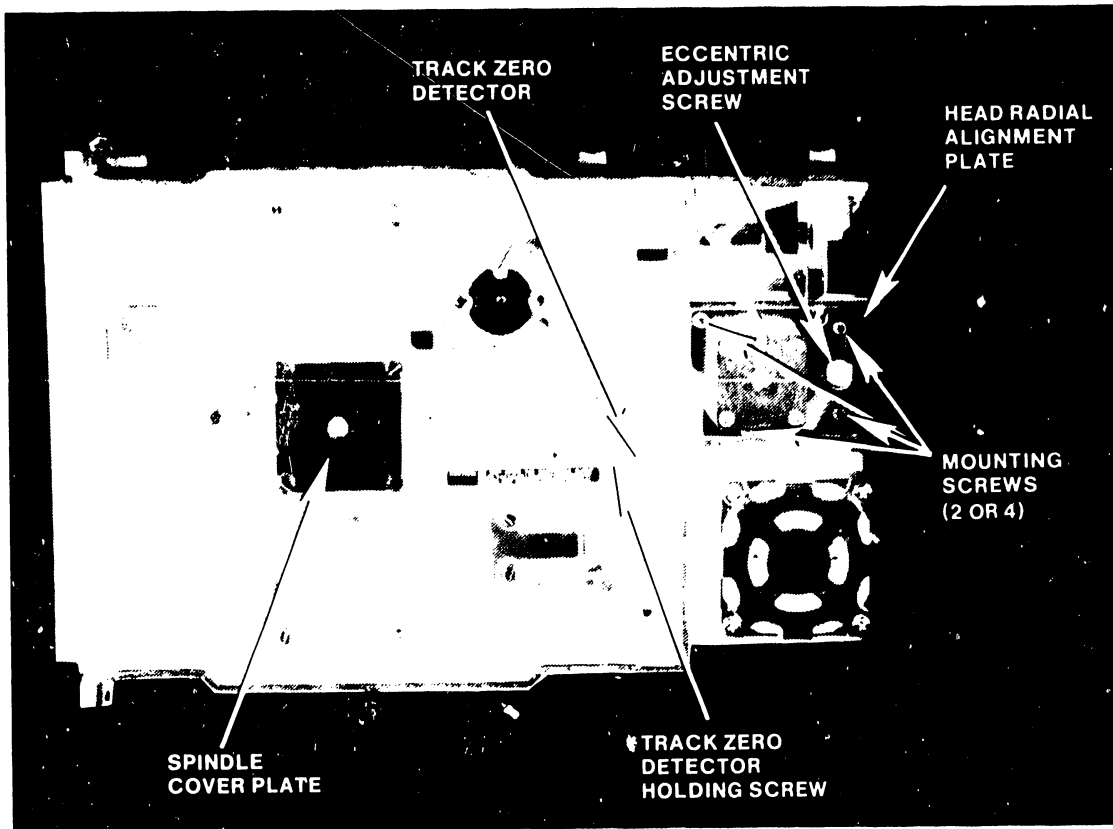

Figure 5-3 Shugart 850/851, Right Side
5. Loosen two or four mounting screws on the radial alignment plate as shown in Figure 5-3.
6. Turn the eccentric adjusting screw (see Figure 5-3) to move the plate and make the adjustment. When the lobes are of equal amplitude, tighten the mounting screws.
5. Loosen the holding screw on the track zero assembly as shown in Figure 5-3. Move the assembly toward the spindle until TP26 goes high.